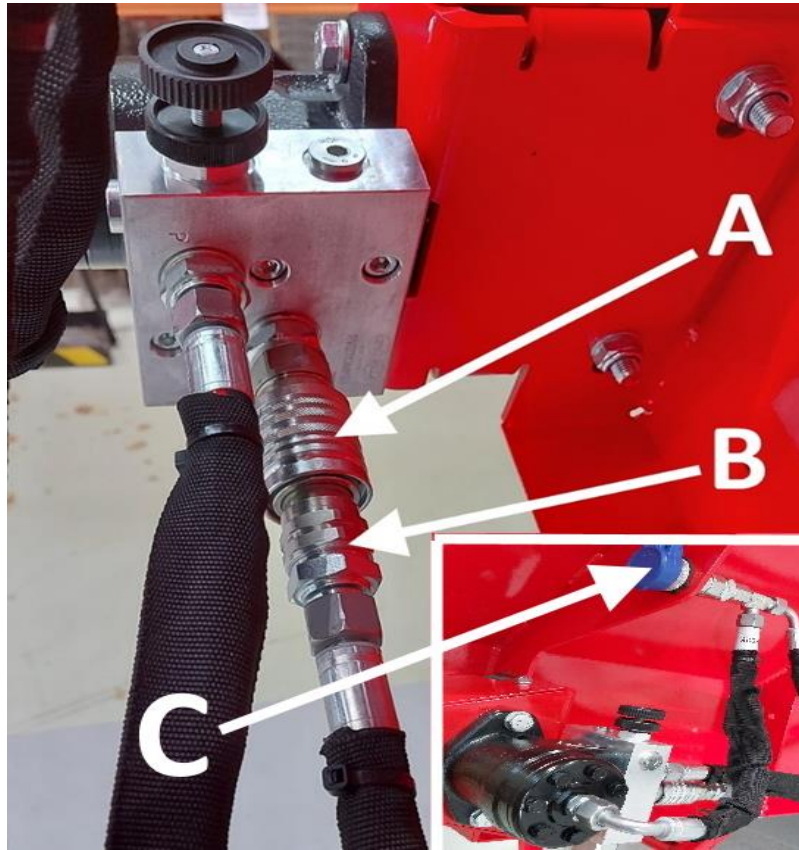

Figure. 2.
2. Detach hydraulic hose B (Figure 2) from quick coupling A and attach XL Conveyor's pressure hose to quick coupling A (Figure 2).
3. Connect hydraulic hose B (Figure 2) to XL Conveyor's return hose (female quick coupling).
4. Connect XL Conveyor's overflow hose to quick coupling C (Figure 2).
1. Detach the conveyor from the firewood processor by removing the rod and pin shown in Figure 2.